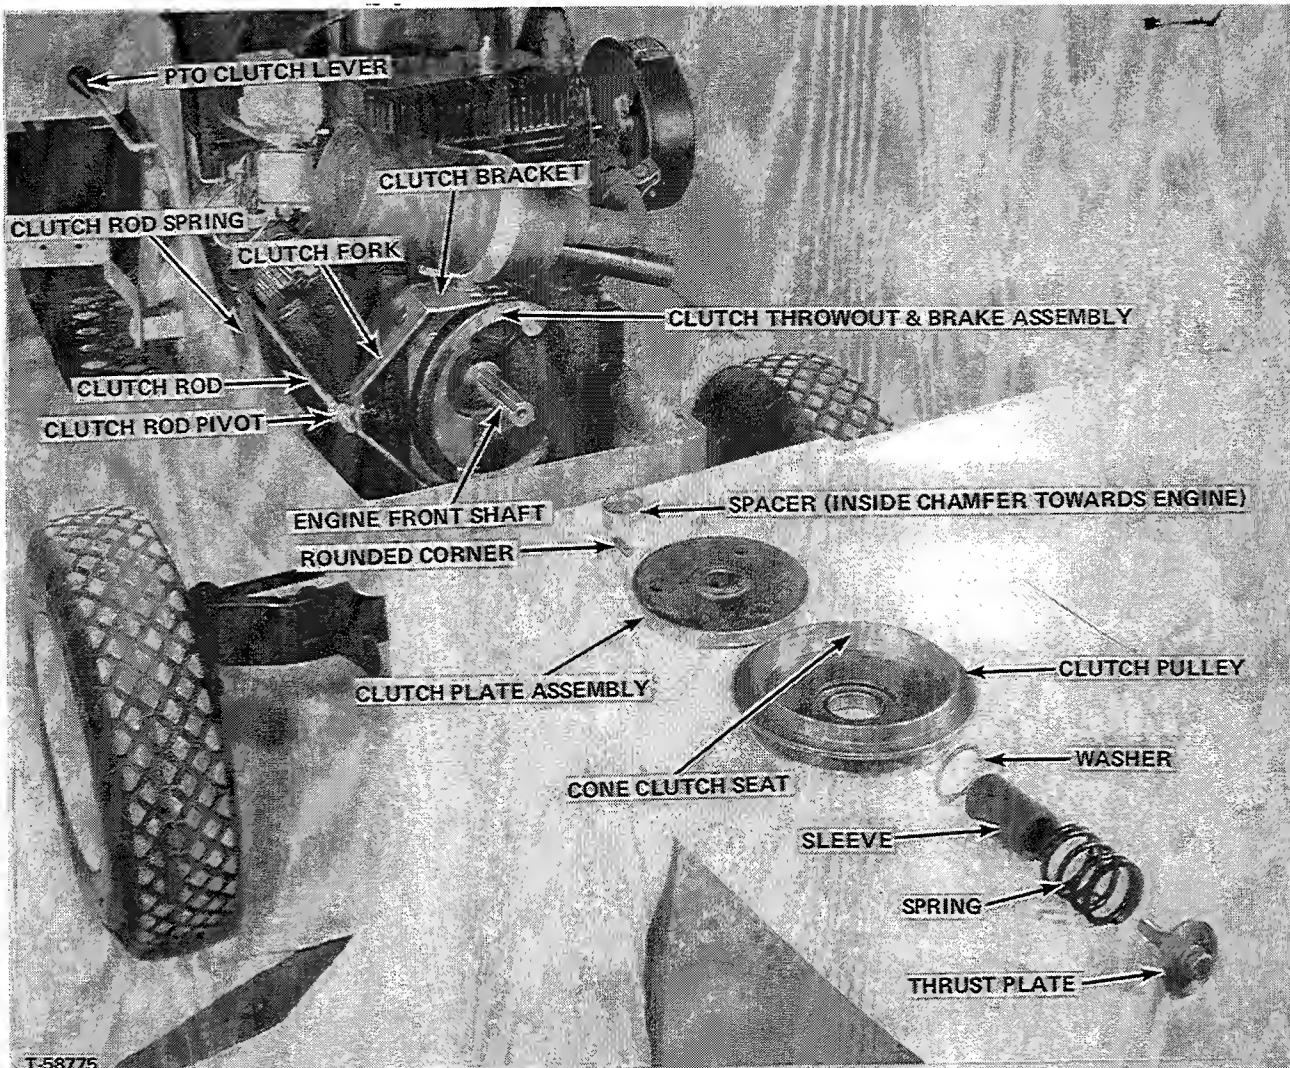

FIGURE 14
2. Remove the hood from the tractor on which the snow thrower is to be mounted. Bolt the clutch bracket and the parts assembled to it in 1, above to the front housing of the engine as shown in Figure 14. The brake lining pads must be facing forward.
3. Place parts displayed in Figure 14 on the engine front shaft in following order:
5. With the threaded end of clutch rod toward the front, work other end of rod back inside of tractor frame as shown in Figure 14 and hook rod end into PTO arm as shown in Figure 15. Secure with cotter pin in end of rod.
6. Place the clutch rod pivot on the end of the clutch rod, attach the clutch rod spring (Figure 14). Adjust the snow thrower PTO clutch as outlined immediately before this setting up instruction section.